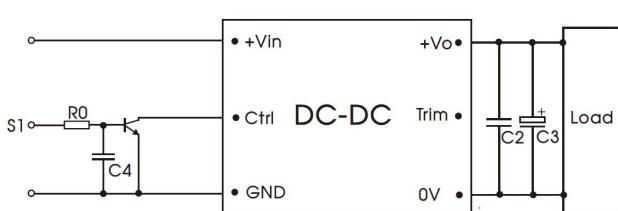

Fig.2
- (1) We recommend using Mornsun's EMC circuit, otherwise please ensure that at least a 100µF electrolytic capacitors is connected at the input in order to ensure adequate voltage surge suppression and protection.
- (2) Output ripple can be further reduced by appropriately increasing the output capacitor values Cin, Cout and/or by selecting capacitors with a low ESR (equivalent series resistance). Also make sure that the capacitance is not exceeding the specified max. capacitance load value of the product.
- (3) The recommended circuit for Ctrl function please refer to Fig.2.